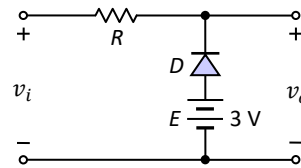

Fig.3-122: Clipper circuit
41. Repeat problem 40 for the clipper circuit of Fig.3-122.